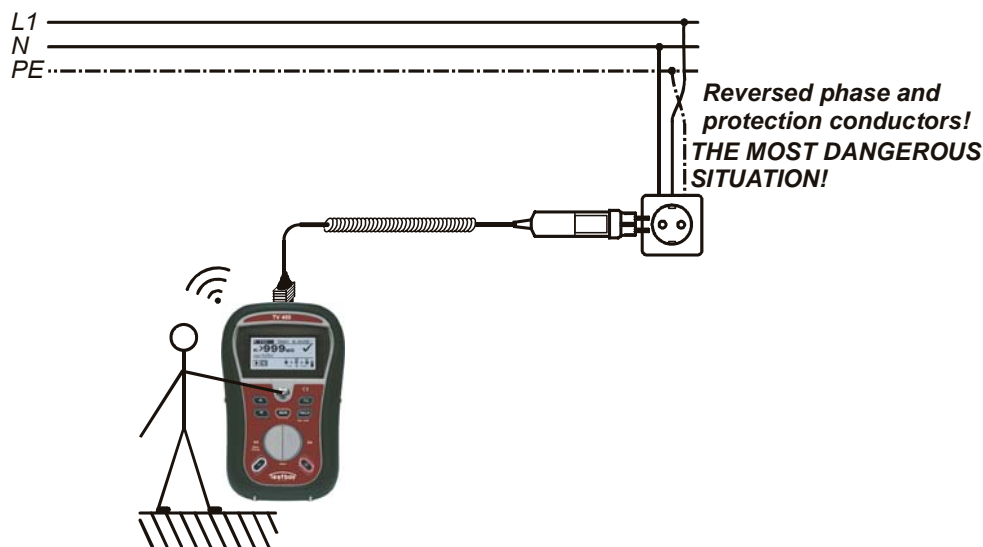

Figure 5.33: Reversed L and PE conductors (application of plug commander)
- ❑ **Connect** test leads to the to the item to be tested (see *figures 5.33 and 5.34*).